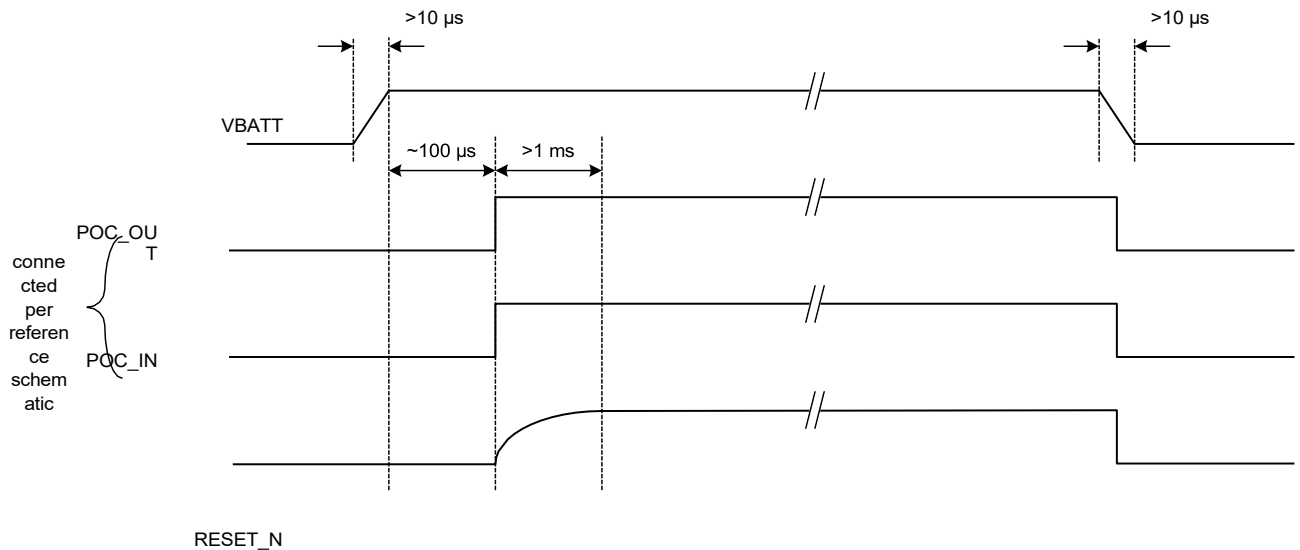

Figure 7.1. Power Up Sequence
- **RESET_N:** RESET_N is an open-drain signal which will be pulled low during a chip reset. It is released after POC_IN is high. RESET_N should be connected to an RC circuit to fulfill the timing requirements shown in Figure 7.1 Power Up Sequence on page 94.
Figure 7.1 Power Up Sequence on page 94 shows the signal timing when POC_OUT, POC_IN, and RESET_N are connected per the recommended schematic. The POC_IN-to-RESET_N delay will occur when POC_IN transitions low to high.